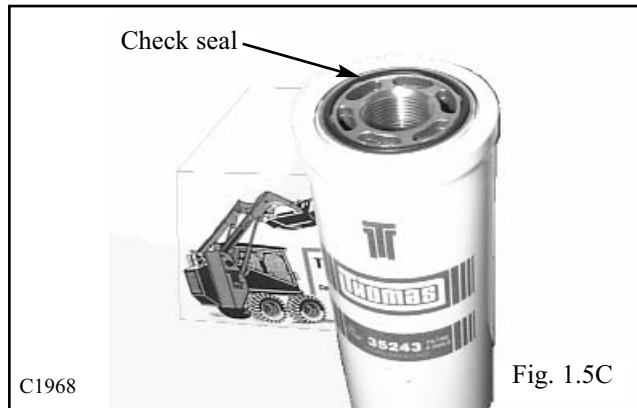

Fig. 1.5C
- 4 Remove the hydraulic oil filter using a proper sized filter wrench. Check to make sure the o-ring seal has come off with the used filter. (Fig. 1.5C)